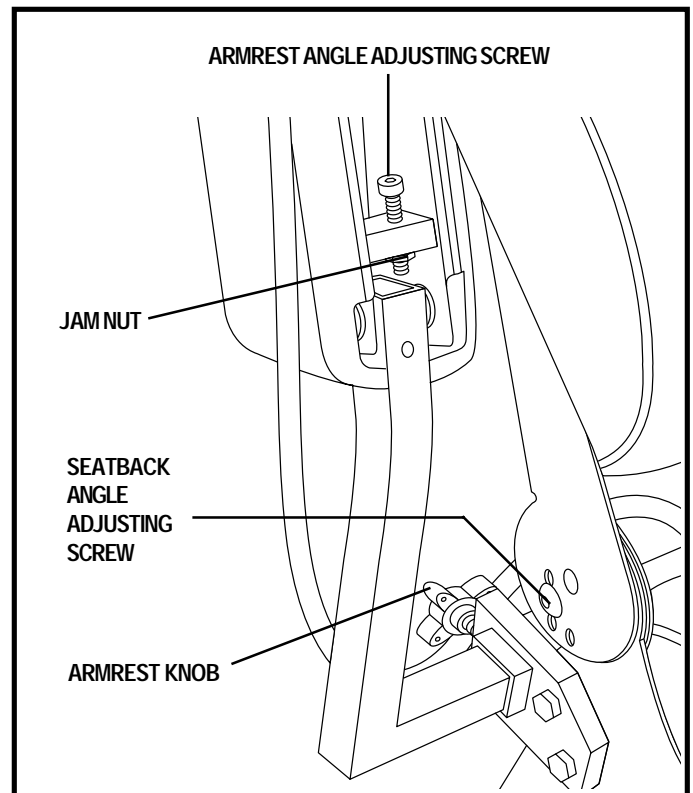

Figure 16. Seatback Angle Adjustment
1. Remove the adjusting screws from each seat hinge. See figure 16.
1. Locate the two armrest knobs on each side of the armrest receiver bracket. See figure 16.
1. Lift the armrest straight up so that it is perpendicular to the floor. See figure 16.